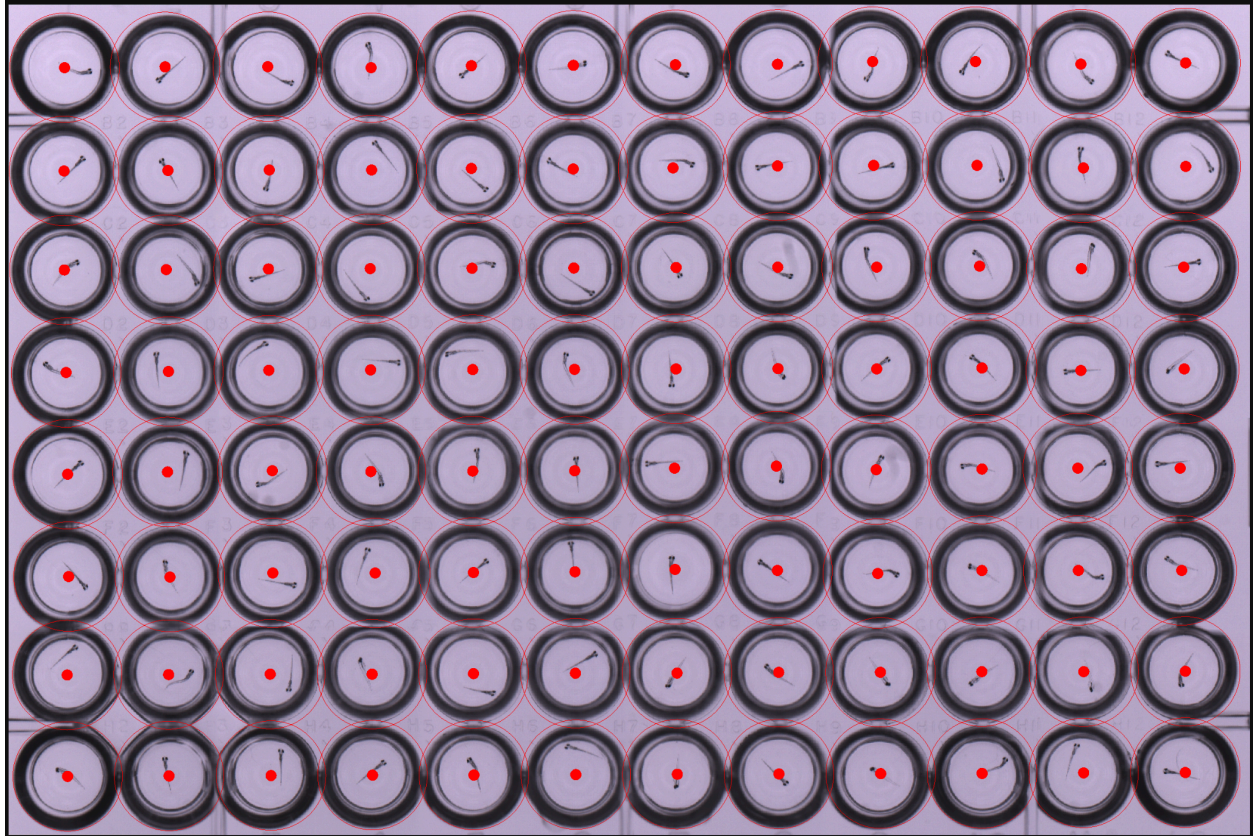

Fig 31: Fully aligned Well Alignment.
- 7) Ensure that well indicator circles and center points are correctly aligned with each well (Fig 31). Individual adjustments can be made if necessary by again double clicking on the center point of each red circle, and dragging to the correct location.